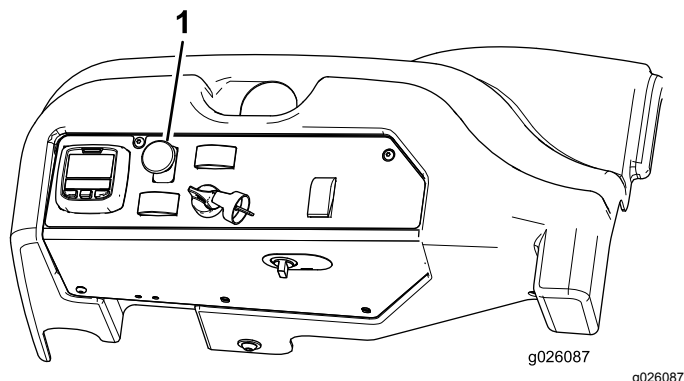

Figure 37
3. Pull up on the PTO switch to engage it (Figure 37).